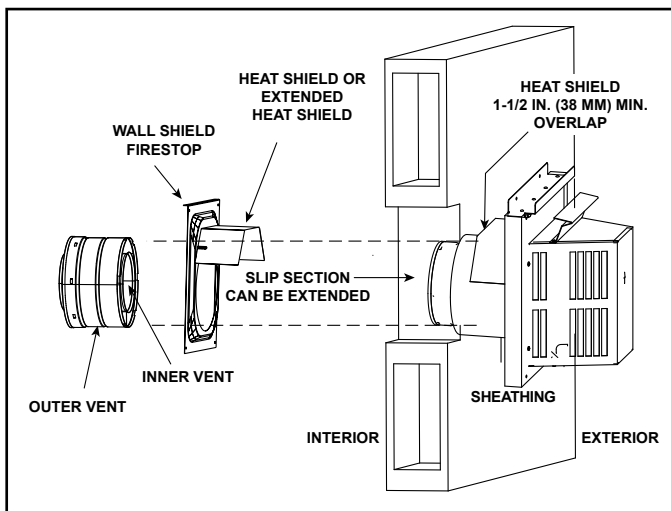

Figure 7.16 Venting Through the Wall - PVI-SLP-B
- **DO NOT** remove the heat shields attached to the wall shield firestop and the horizontal termination cap (shown in Figure 7.16).
There are two sections of the heat shield. One section is factory-attached to the wall shield firestop. The other section is factory-attached to the cap. See Figure 7.16.